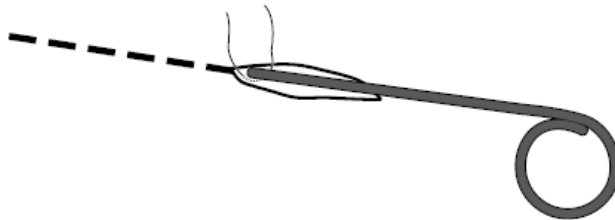

Figure 1. Suture placed around the tunneling rod in the subcutaneous tissue
1. With the tunneling tool in place and prior to pulling the percutaneous extension to the pocket site, place a resorbable suture in the tissue around the tunneling rod near the entry site from the pocket (Figure 1).